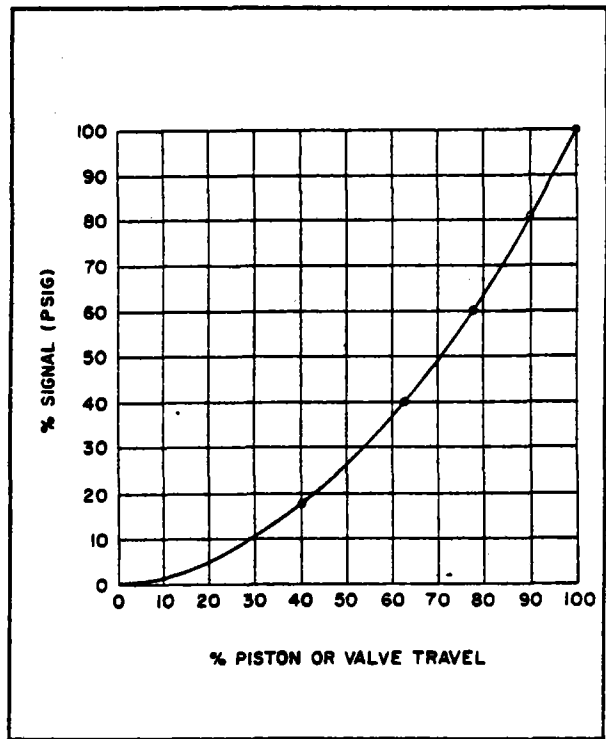

FIGURE 17 - Cam Characteristic
3. Using values determined in steps 1 and 2, plot a curve to determine exact control signal pressure versus piston (or valve) position characteristic (Figure 17).